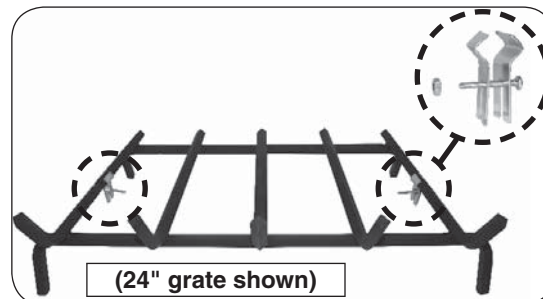

Fig. 10-1 Attach stabilizer clips to grate
1. Locate the grate (outside of the fireplace) and attach the stabilizer clips to the 2 outer bars of the grate using the provided screws and nuts (see Fig. 10-1 and Fig. 10-3). The stabilizer clips should be positioned toward the middle of the outer bars and oriented as shown in Fig. 10-1. Tighten the clips in place.